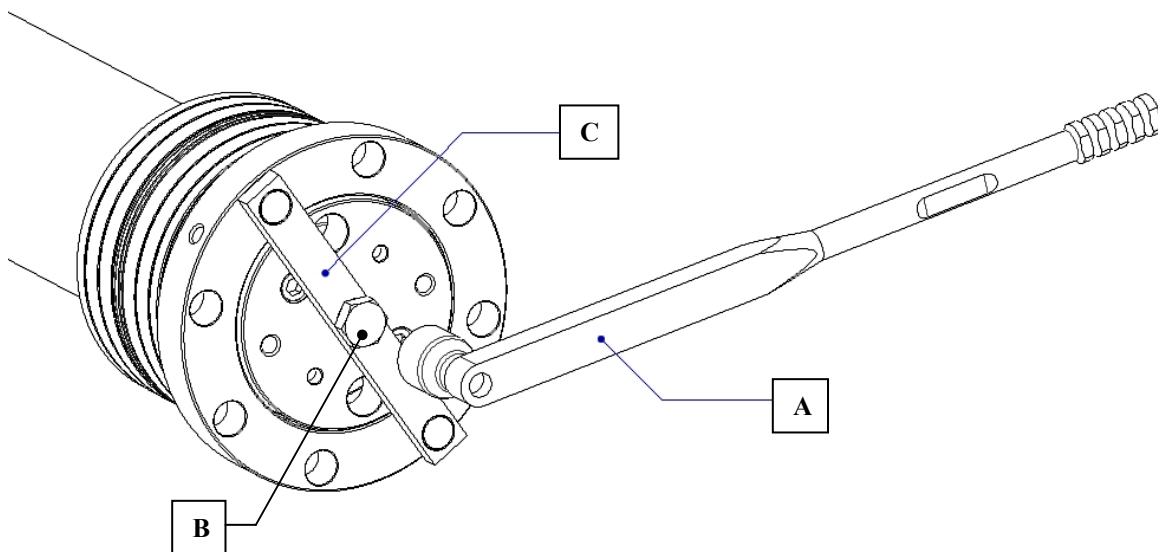

Figure 1
Torque applied on the piston or piston nut with the torque wrench (A) via the hexagon head (B) of the torque converter (C) (see figure 1).